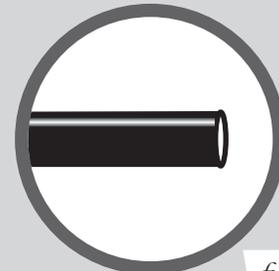

fig. 7
When cutting air lines, use a sharp knife or a hose cutter and make clean, square cuts (Fig. 7). Do not use scissors or wire cutters because these tools may deform the air line, causing it to leak around fittings. Do not cut the lines at an angle.
- a. Check the air line connection by deflating the spring and removing the line by pulling the collar against the fitting and pulling firmly on the air line. Trim 1" off the end of the air line. Be sure the cut is clean and square (see Fig. 7). Reinsert the air line into the push-to-connect fitting.